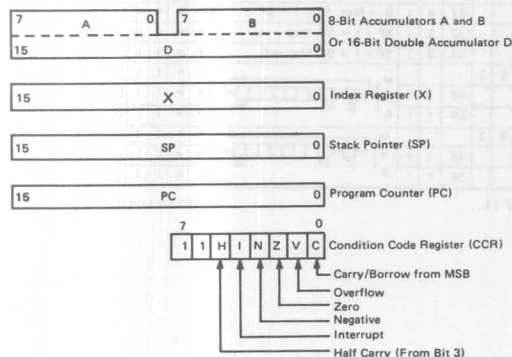

Figure 23 CPU Programming Model
- CPU programming model (See Fig. 23)
The programming model for the HD63P01M1 is shown in Figure 23. The double accumulator is physically the same as the accumulator A concatenated with the accumulator B, so that the contents of A and B is changed with executing operation of an accumulator D.